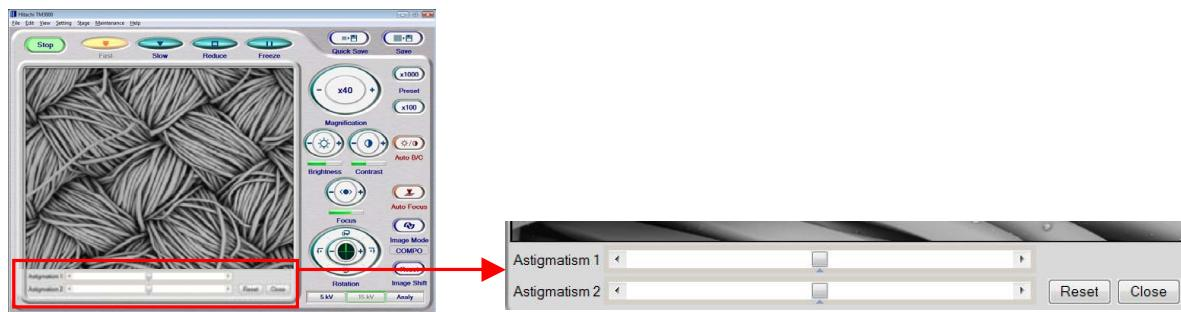

Figure 4.2.13-7 Astigmatism Correction Display Area
3b. Using focusing adjustment, set the focus in the condition shown in Figure 4.2.13-5 (A). Position (A) is the middle position of the points through which the image runs vertically.